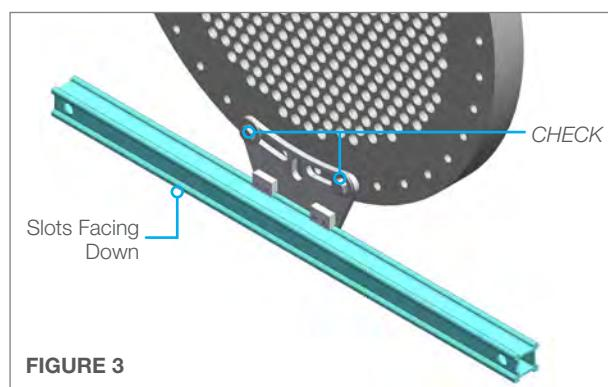

FIGURE 3
3. Loosen the **Rail Clamp Tensioner** on the bottom **Positioner Clamp** and insert the **Lower Rail** *with the slots facing down*, into the lower rail clamps. It is not critical that this rail is aligned as precisely as the top rail, but it should be close to parallel with the top rail for best performance. Tighten the **Rail Clamp Tensioner** securing the rail to the **Positioner Clamp**. Check Rail Clamp bolts to ensure they are secured to the tube bundle flange. **(Figure 3)**